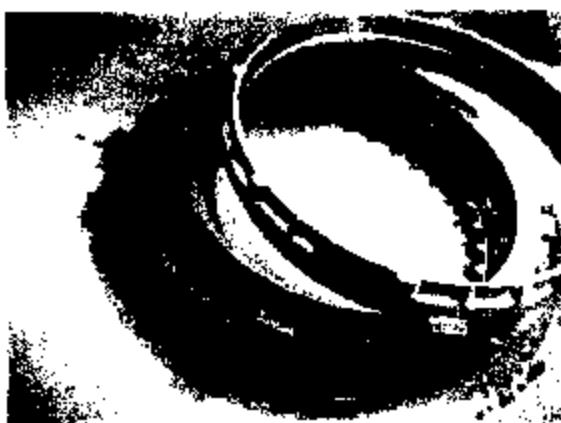

Figure 8
19. Remove the remaining steel 4th clutch plate (*see figure 8*).
52. Reinstall the 1th clutch; steel, lined, steel, steel, lined, steel (*see figure 8*).
54. Reinstall the 1th retainer, cutout notch facing up & toward the valve body (*see figure 8*).